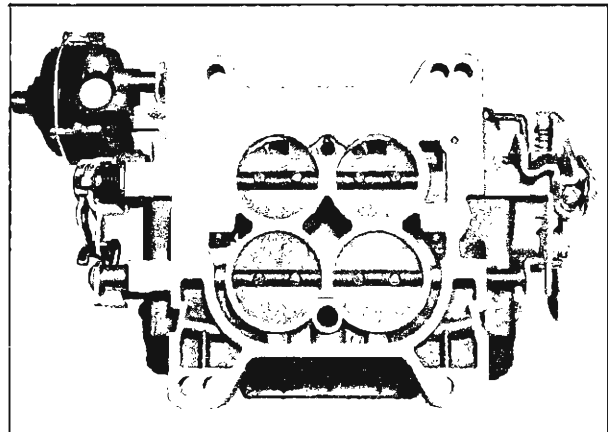

Fig. 43—Throttle Valve Position
4. Install throttle valves in shafts with part number identification toward bottom of flange and secure with new screws (fig. 43).